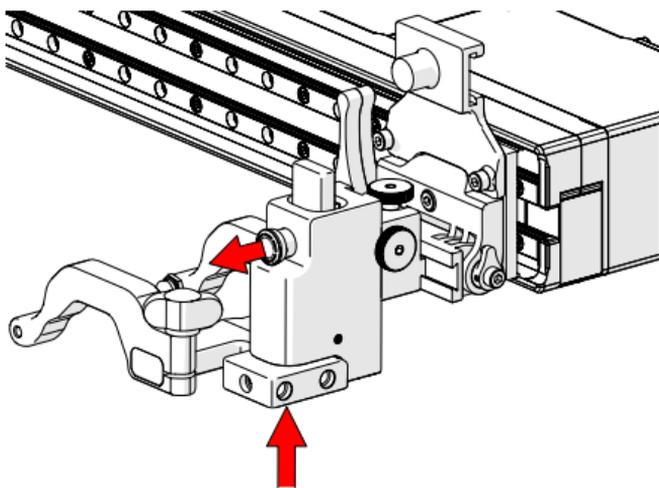
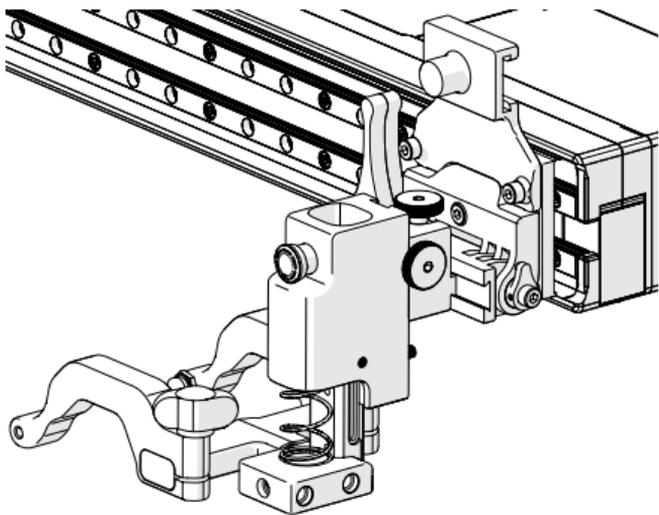

Fig. 119 - Press up and pull latch
Fig. 120 - Lowered toward scan surface
1. Gently lift the heavy duty vertical probe holder and simultaneously pull the latch (Fig. 119). This action will unlock the probe holder. Slowly lower the probe holder towards the scan surface (Fig. 120).